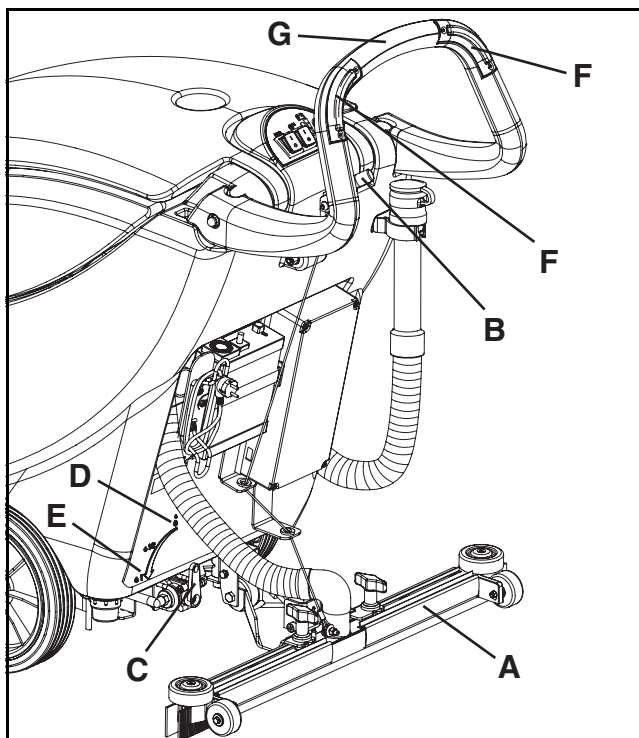

Figure 15
2. Lower the squeegee (A, Fig. 15) by pushing the lever (B) downwards.
3. Turn the solution flow control lever (C, Fig. 15) to one of the following positions, according to the type of cleaning to be carried out:
- **ECO system:** When the lever (C, Fig. 15) is in the "ECO" position (D), the machine works in a special condition of programmed water "economy" usage; as the water flow is set and constant, the machine can work with a cleaning time of 70-80 minutes [0.08 gal/min (0.3 liters/min)].
- **Variable system:** When the lever is turned to the left (variable flow), it is possible to increase the capacity up to 0.26 gal/min (1 liter/min) (E, Fig. 15).
5. While keeping both hands on the handlebar (G, Fig. 15), start the machine by pressing one or both the activation switches (F).
6. Release the switches (F, Fig. 15).
8. Lift the squeegee by pushing the lever (B, Fig. 15) completely upwards.